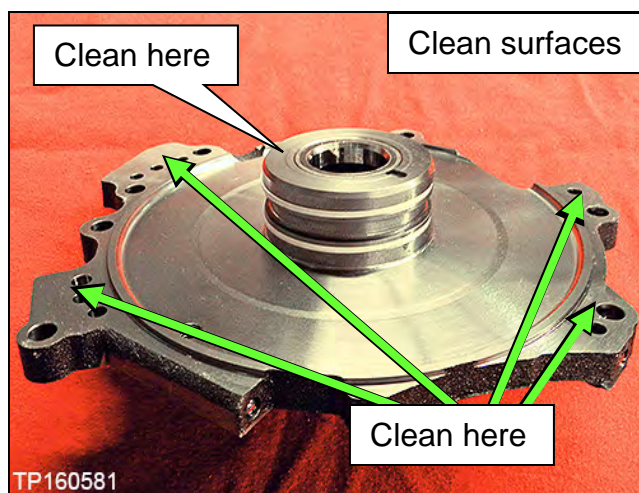

Figure 7G
- a. Clean the dummy cover surfaces that contact the CVT case and thrust bearing (Figure 7G).